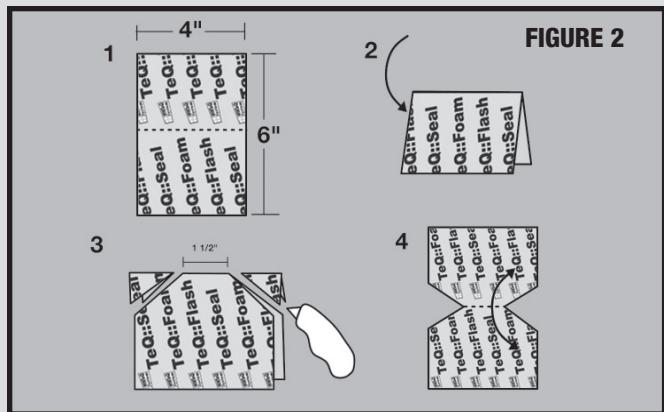

FIGURE 2
2.1.1. Create your Corner Guard Flashing for the corners of the sill using a 4” x 6” Flashing. Fold in half and clip edges. (Figure 2)
- 1 qty. at Sill Base ($RO^W + 2 \times \text{Flashing width} - 1"$). (Figure 2)